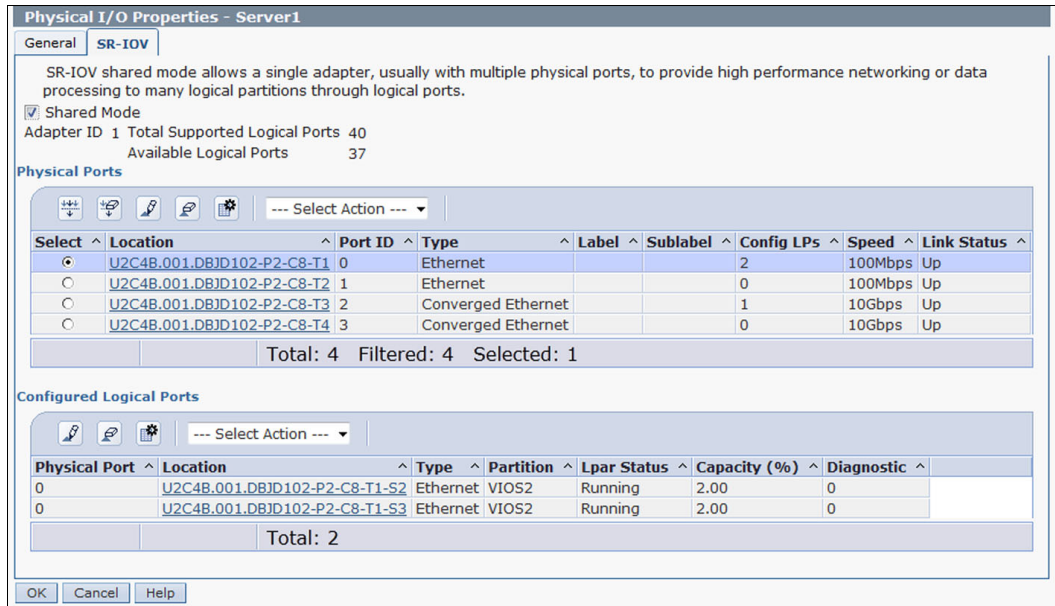

Figure 4-18 Server Physical I/O Properties panel: Configured Logical Ports
- Select the server, then from the **Tasks** menu, click **Properties**, and then click the **I/O** tab. Next, click the link for the appropriate SR-IOV adapter, and click the **SR-IOV** tab. Click the radio button by the appropriate physical port to see the associated logical ports (Figure 4-18). Then click the link of the location for the logical port that you want to edit.